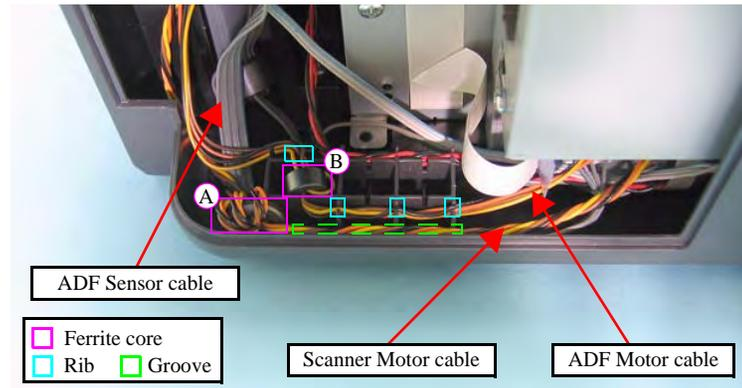

Figure 4-7. Routing the cables
1. Route the ADF Sensor cable through the groove shown in Figure 4-7 and connect it to connector CN25 on the Main Board.
2. Secure the ferrite core A of the Scanner Motor cable to the place shown in Figure 4-7, and route the cable over the ADF Sensor cable, then connect it to connector CN10 on the Main Board.
3. Secure the ferrite core B of the ADF Motor cable to the place shown in Figure 4-7 and route the cable through the ribs (x4).